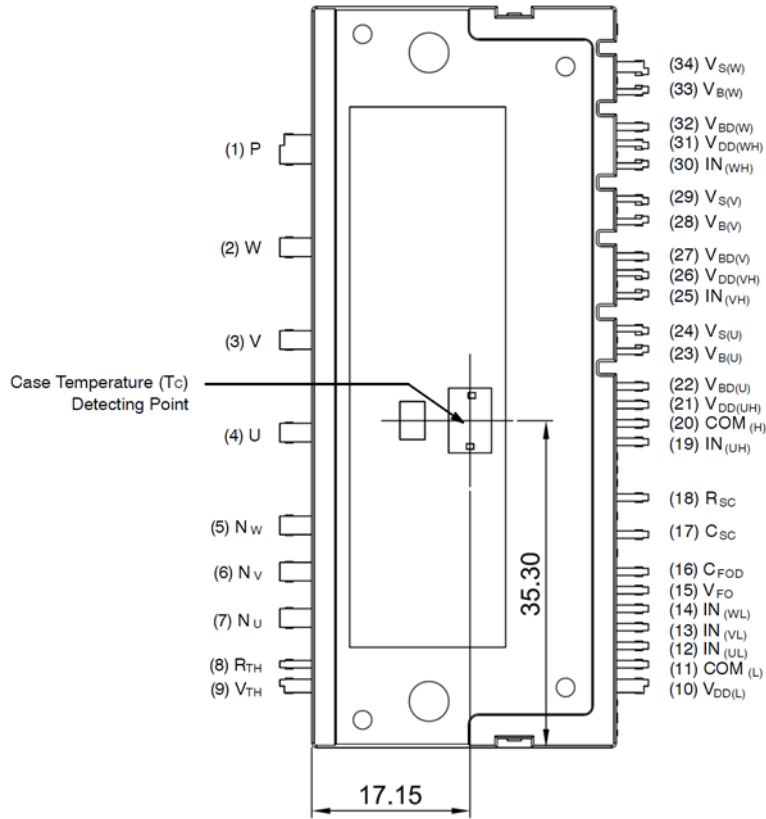

Figure 10. Case Temperature (T_C) Detecting Point
- For the measurement point of case temperature (T_C), please refer Figure 10. DBC discoloration and Picker Circle Printing allowed, please refer to application note AN-9190 (Impact of DBC Oxidation on SPM® Module Performance).